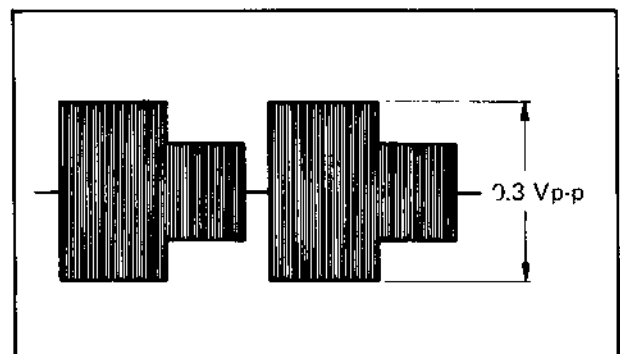

Fig. 6-36 ACC output level
3. Adjust R335 (ACC OUT LEVEL) so that the level of TP203 is $0.3 \pm 0.04 \text{ Vp-p}$ as shown in Fig. 6-36.